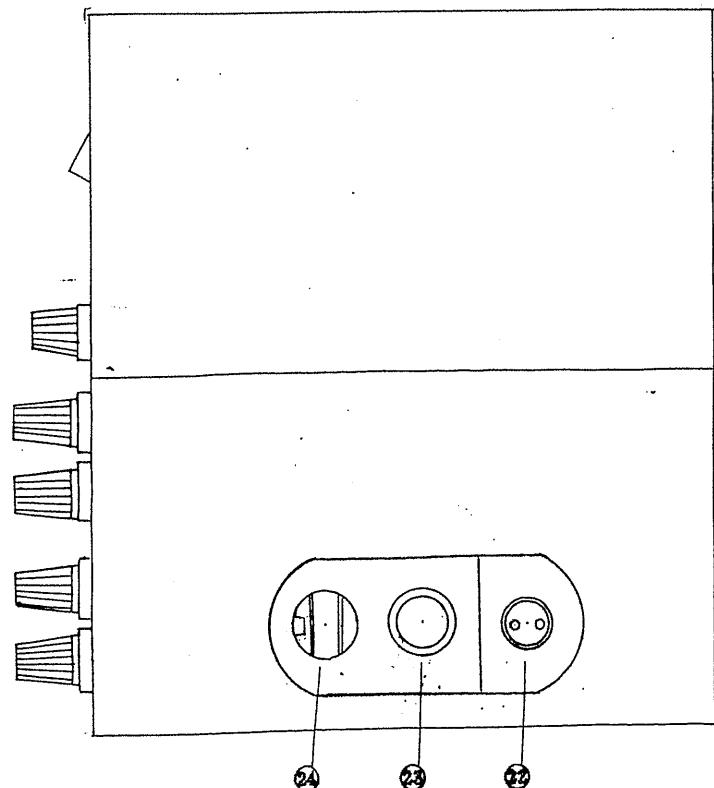

Fig. 3-2 The side panel of Audio Tester
3.2 DESCRIPTION OF THE SIDE PANEL (Refer to Fig. 3-2.)
- (22) POWER CORD: The power cord has a connector. In connecting, ensure that the inserting direction of the connector is correct.
- (23) FUSE: Fuse holder of the AC power line. The fuse is a conventional glass tubular type (0.5 A).
- (24) AC LINE VOLTAGE SELECTOR: AC line voltage is selectable by changing the inserting direction of this selector plug. So insert the plug that the required voltage is visible at the indent of the plug.